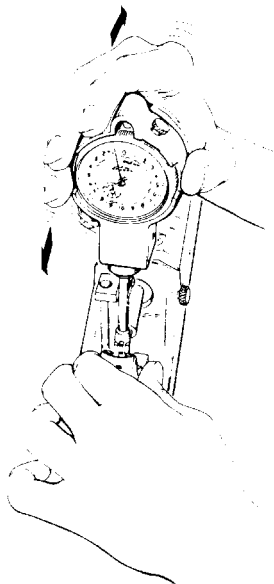

FIGURE 15
8. While holding the Nest stationary, rock the Gage in the vertical plane until the Indicator Hand registers the minimum reading (see Figure 15). Recheck the minimum reading in the horizontal plane.